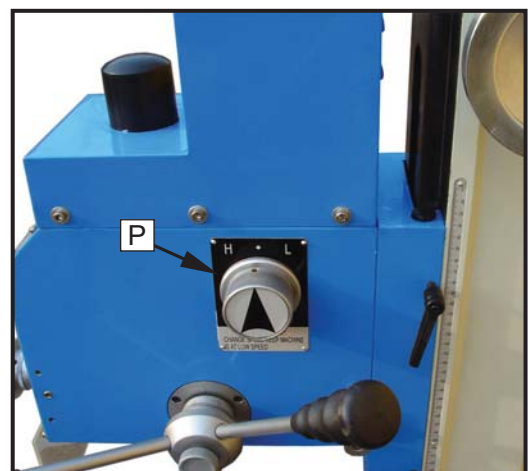

Fig. 10
**High/Low Speed Knob (P, Fig. 10)**